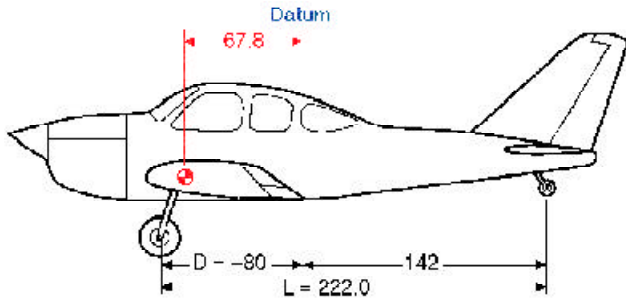

Figure 3-8. The datum is aft of the main wheels, at the intersection of the wing trailing edge and the fuselage.
The datum of the airplane in Figure 3-8 is located at the intersection of the wing root trailing edge and the fuselage. This places the arm of the main gear (D) at -80 inches. The net weight of the tail wheel (R) is 67 pounds, the distance between the main wheels and the tail wheel (L) is 222 inches, and the total net weight (W) of the airplane is 1,218 pounds.